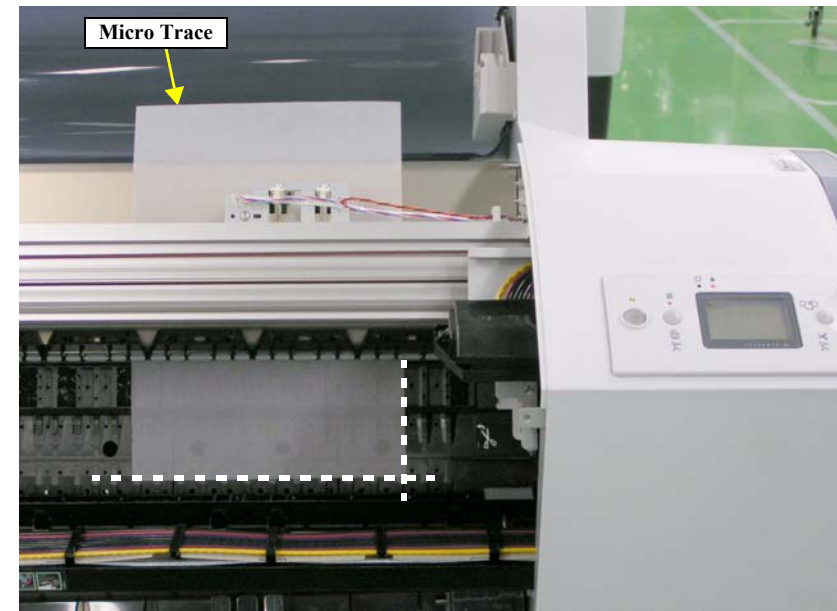

Figure 5-63. Setting the Micro Trace
5. Load the Micro Trace on the printer from the rear paper feeder setting it to the position shown in Figure 5-63, and lower the Paper Set Lever.
In Figure 5-63, the H Top Cover is removed to show the position of the Micro Trace clearly. When performing the adjustment, do not remove the H Top Cover, or the AD value cannot be obtained correctly.